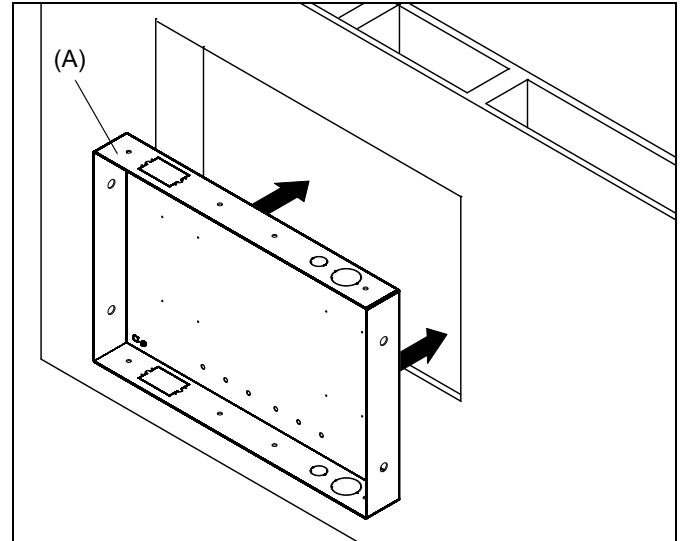

Figure 4
1. Install UL Listed electrical box accessory (not included) into the PAC501 (A) following instructions included with the UL Listed electrical box.
4. Center PAC501 (A) in opening and insert into opening. Align front of box with front face of wall. (See Figure 4)
5. Drill four 3/16" diameter pilot holes in studs at side mounting holes. (See Figure 4)